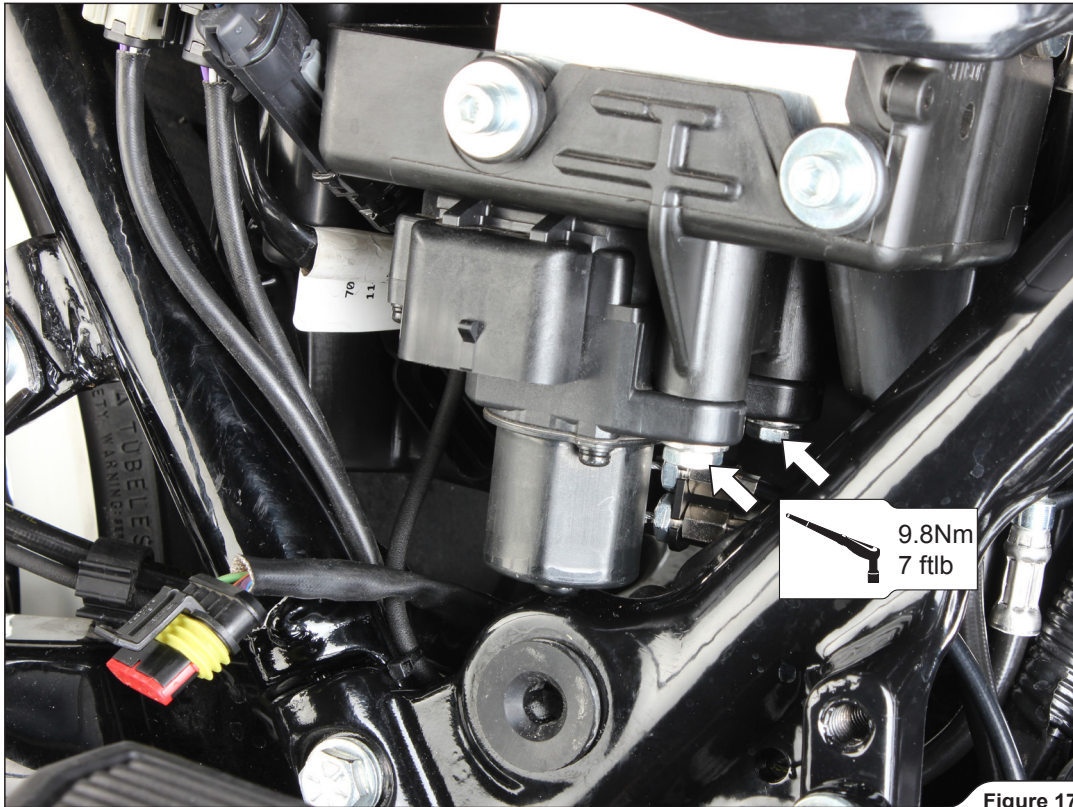

Figure 17
4. Reinstall the servo motor back onto the motorcycle (Figure 17).